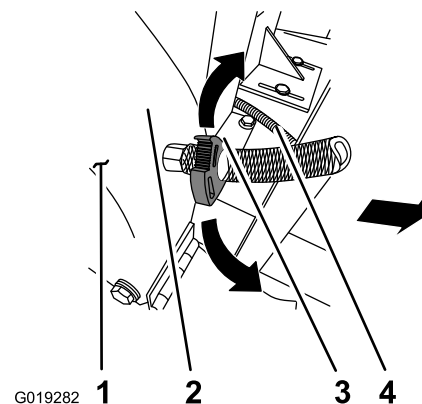

Figure 30
1. Release the inner and outer serrated segments from the hose clamp that secures the water hose to the barbed fitting in the blade guard (Figure 30).